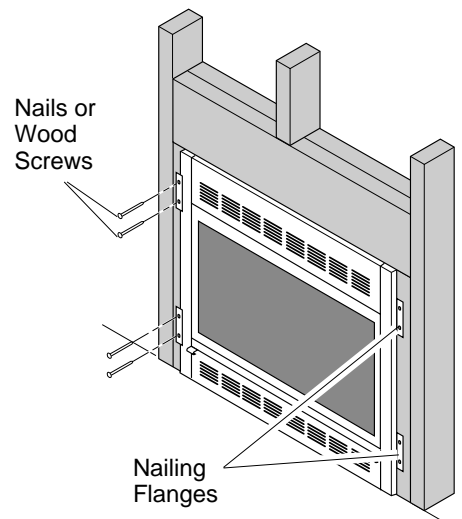

Figure 35 - Attaching Fireplace to Wall Studs
8. Attach fireplace to wall studs using nails or wood screws through holes in nailing flange (see Figure 35).